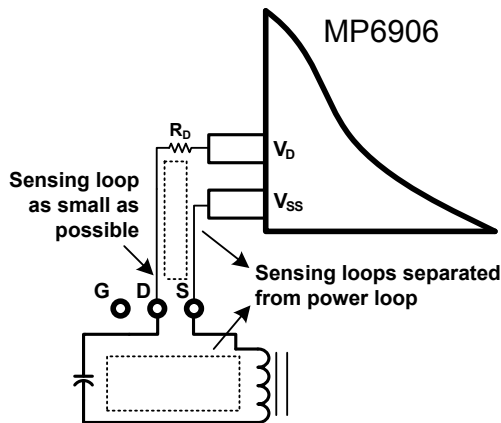
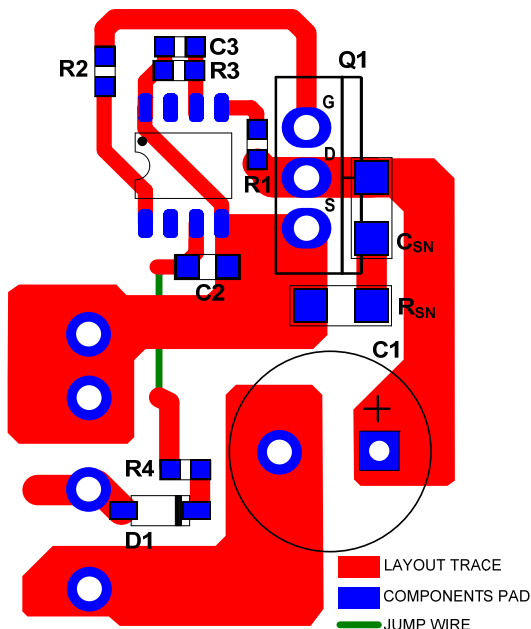

Figure 17: Voltage Sensing for V_D/V_{SS} on MP690
Figure 18: Layout Example with TO220 package SR FET
Efficient PCB layout is critical for optimal operation. For best results, refer to Figure 17, Figure 18, and Figure 19 and follow the guidelines below:
- 3.) Keep the IC out of the power loop to make sure the sensing loop and power loop do not interrupt each other (see Figure 17).
Figure 18 shows a layout example of a single layer with a through-hole transformer and a TO220 package SR FET. R_{SN} and C_{SN} are the RC snubber network for the SR FET.